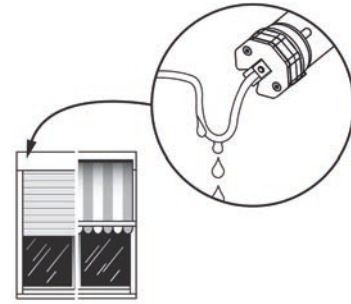

Fig. 1
1. The connection cable should be installed in a conduit to the junction box, in compliance with the local building and electrical regulations. Avoid any contact between moving objects and connection cables by routing the cables according to figure 1.